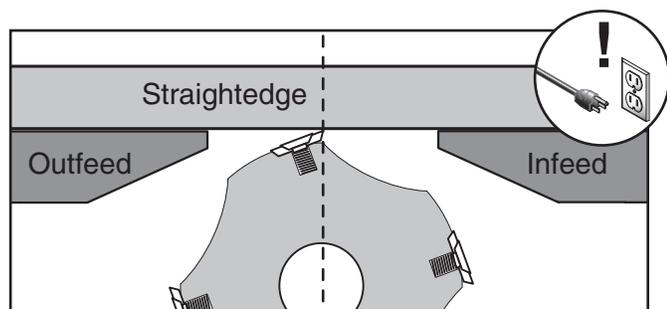

Figure 61. Checking table parallelism.
4. Rotate cutterhead until insert is no longer at TDC, extend straightedge over both tables, raise infeed table until it contacts straightedge (see **Figure 61**), then lock infeed table.